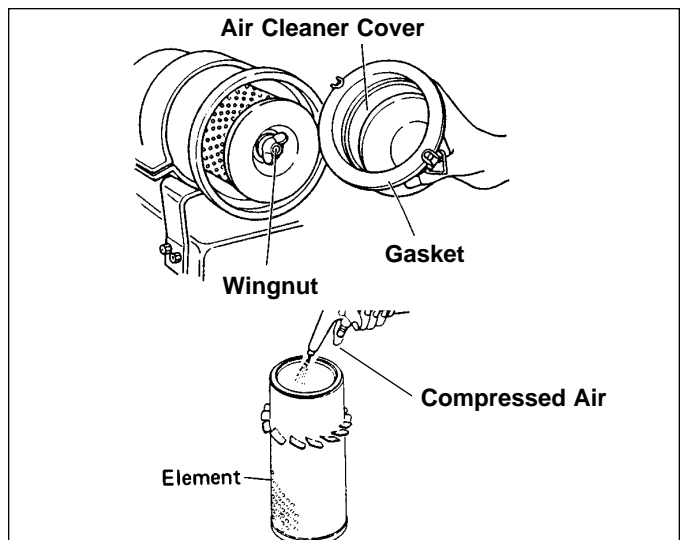

Figure 4-5. Servicing Engine Air Filter
3. Remove the wingnut (Figure 4-5) and remove air cleaner element.
4. Clean air cleaner element with compressed air 30 psi (200 kPa) (Figure 4-5).